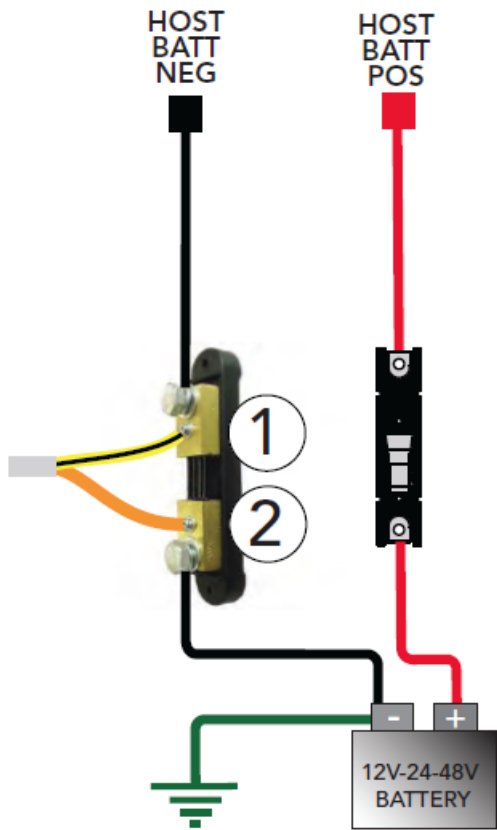
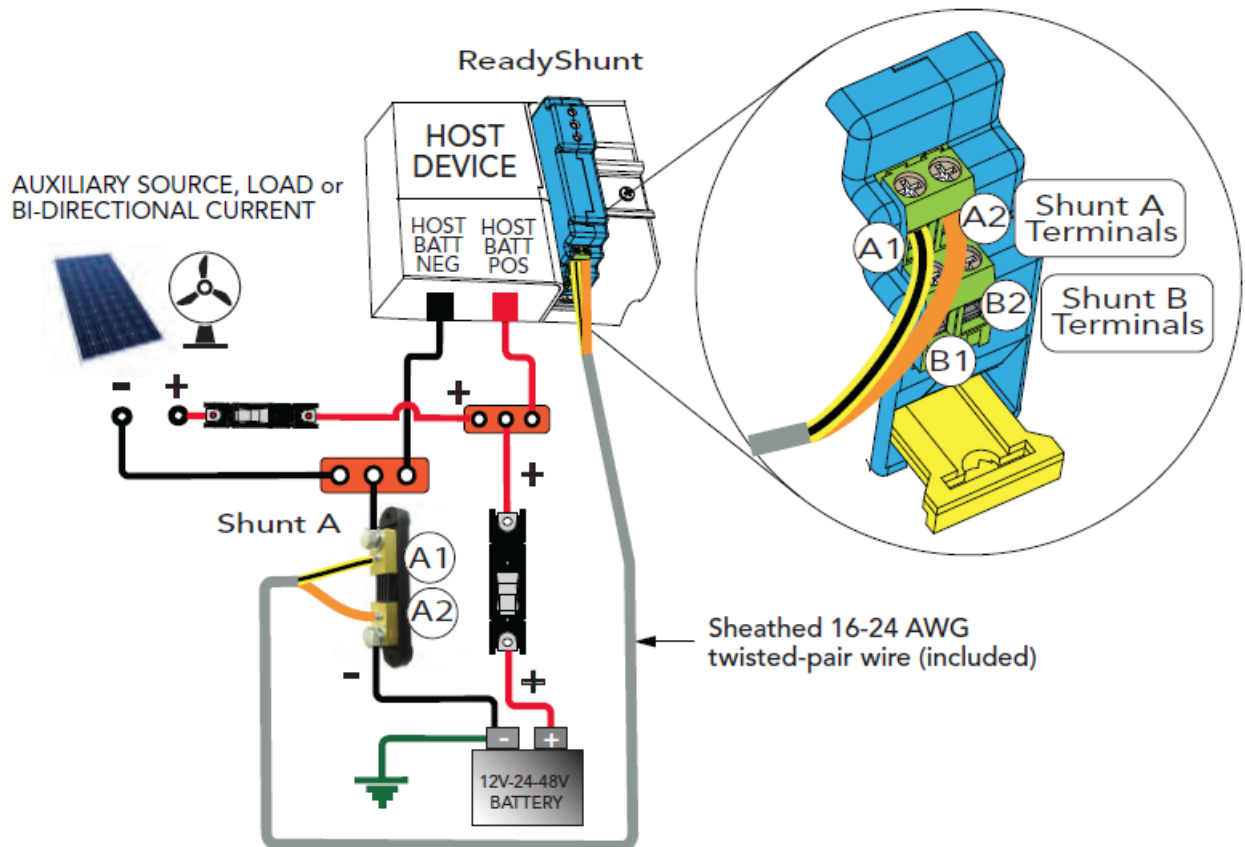

Figure 5-1. Negative Leg Shunt
Figure 5-3. Shunt Block Net Battery Current Wiring Example
2. **Step 2.** Install the shunt(s) on the circuit(s) to be measured, as seen in Figures 5-1 or 5-2, below. When installing more than one shunt in a system, wire all shunts with the same polarity.
3. **Step 3(A) or (B). Shunt to ReadyShunt Wiring**
- **A. Negative Leg Installation** (see Figure 5-1 below). For a system with negative leg shunt(s), connect the yellow/black stripe (twisted-pair) wire to the charge/load side of the shunt, and then connect the other end to level A(1) or B(1) ReadyShunt terminal (see exploded view of terminals in Figure 5-3, 5-4 and 5-5). Connect the orange (twisted-pair) wire to the battery side of the shunt, and then connect the other end to the same level A(2) or B(2) ReadyShunt terminal.
Refer to Figures 5-3, 5-4 and 5-5 for common application schematics. Busbars are shown for clarity, actual wiring may vary.